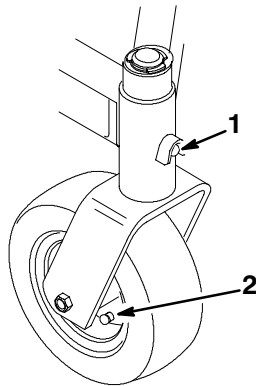

Figure 19
- Grease the fittings on the carrier frame mounting tubes and castor wheels (Fig. 19).